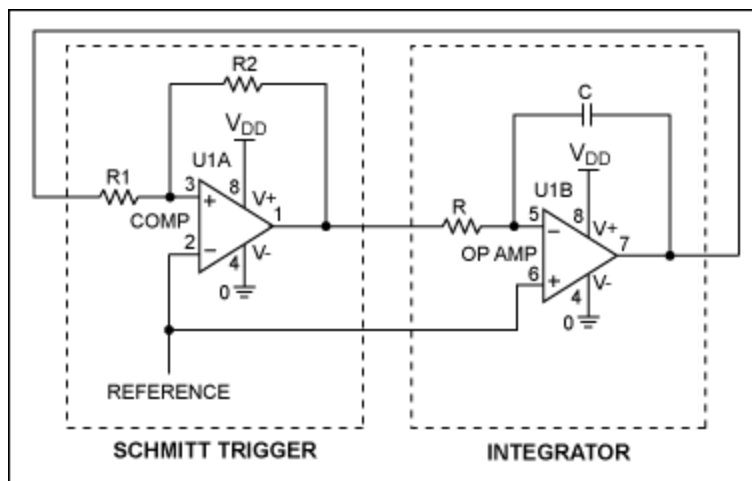
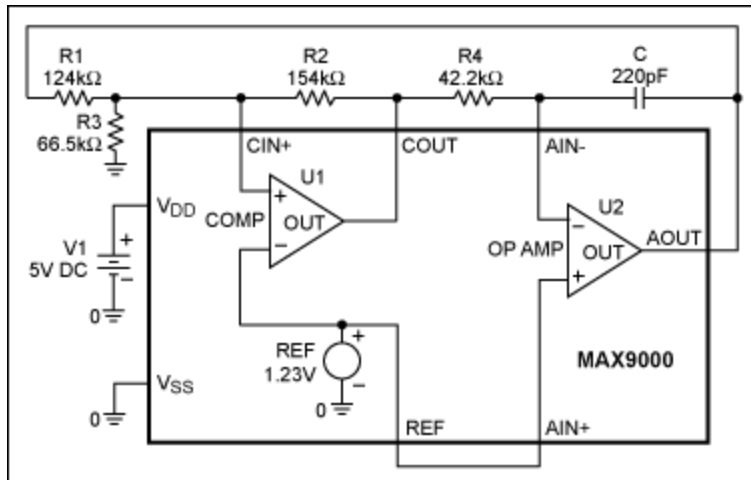
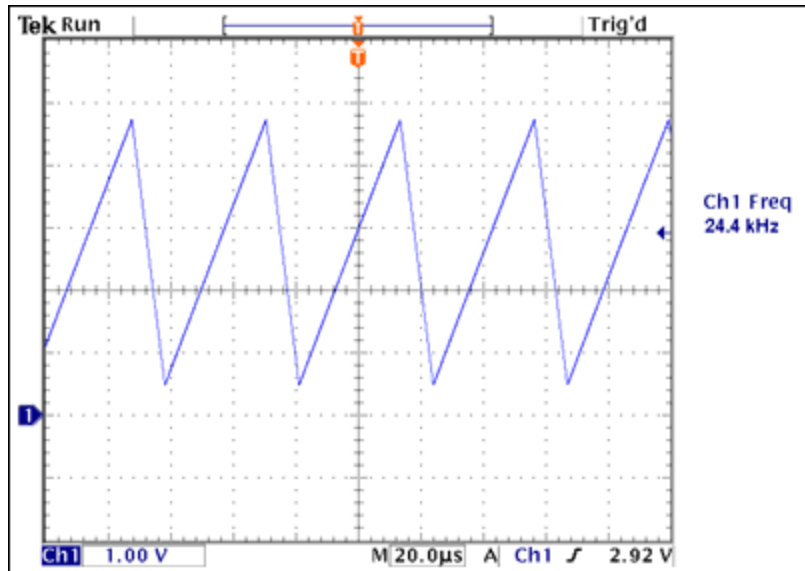

Figure 1. Design concept for a basic triangular-wave generator.
Figure 2. A triangular wave generator using the MAX9000.
Figure 3. Output waveform for the triangular wave circuit in Figure 2.
**Figure 1** shows a basic triangular wave generator circuit.1 It is comprised of two basic building blocks: an integrator to generate the triangular wave output, and a comparator with external hysteresis (Schmitt trigger) to set the amplitude of the triangular wave as desired.
There is a drawback to the circuit in Figure 1: the peaks of the triangular wave can only be symmetrical about the reference voltage applied to the comparator's inverting input. To generate a triangular wave from 0.5V to 4.5V, for example, a reference voltage of  $(0.5V + 4.5V)/2 = 2.5V$  is needed. Since a standard bandgap reference has an output voltage of 1.23V, it would be preferable if the voltage range of the triangular wave could be set independent of the bandgap reference. This flexibility is achieved by adding resistor R3 to the hysteresis network, as illustrated in **Figure 2** where the circuit uses the MAX9000. Resistor R3 enables the peaks of the triangular wave to be set independent of the reference voltage.
Figure 3 plots the output waveform of the circuit in Figure 2.